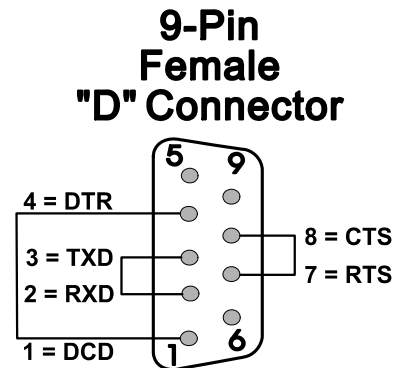

Figure 5-13. RS-232 Loop-back Plug
- Ports 1, 2, 4, and 8 (RS-232) use a 9-pin female D-type loop-back plug (shown in *Figure 5-13*).